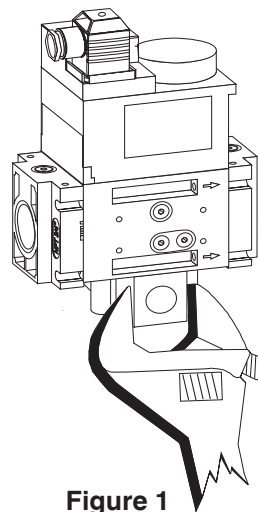

Figure 1
3. Apply counter pressure when screwing the pipe into the Vent Line Adapter and while capping and sealing unused vent line connection (See fig. 1).